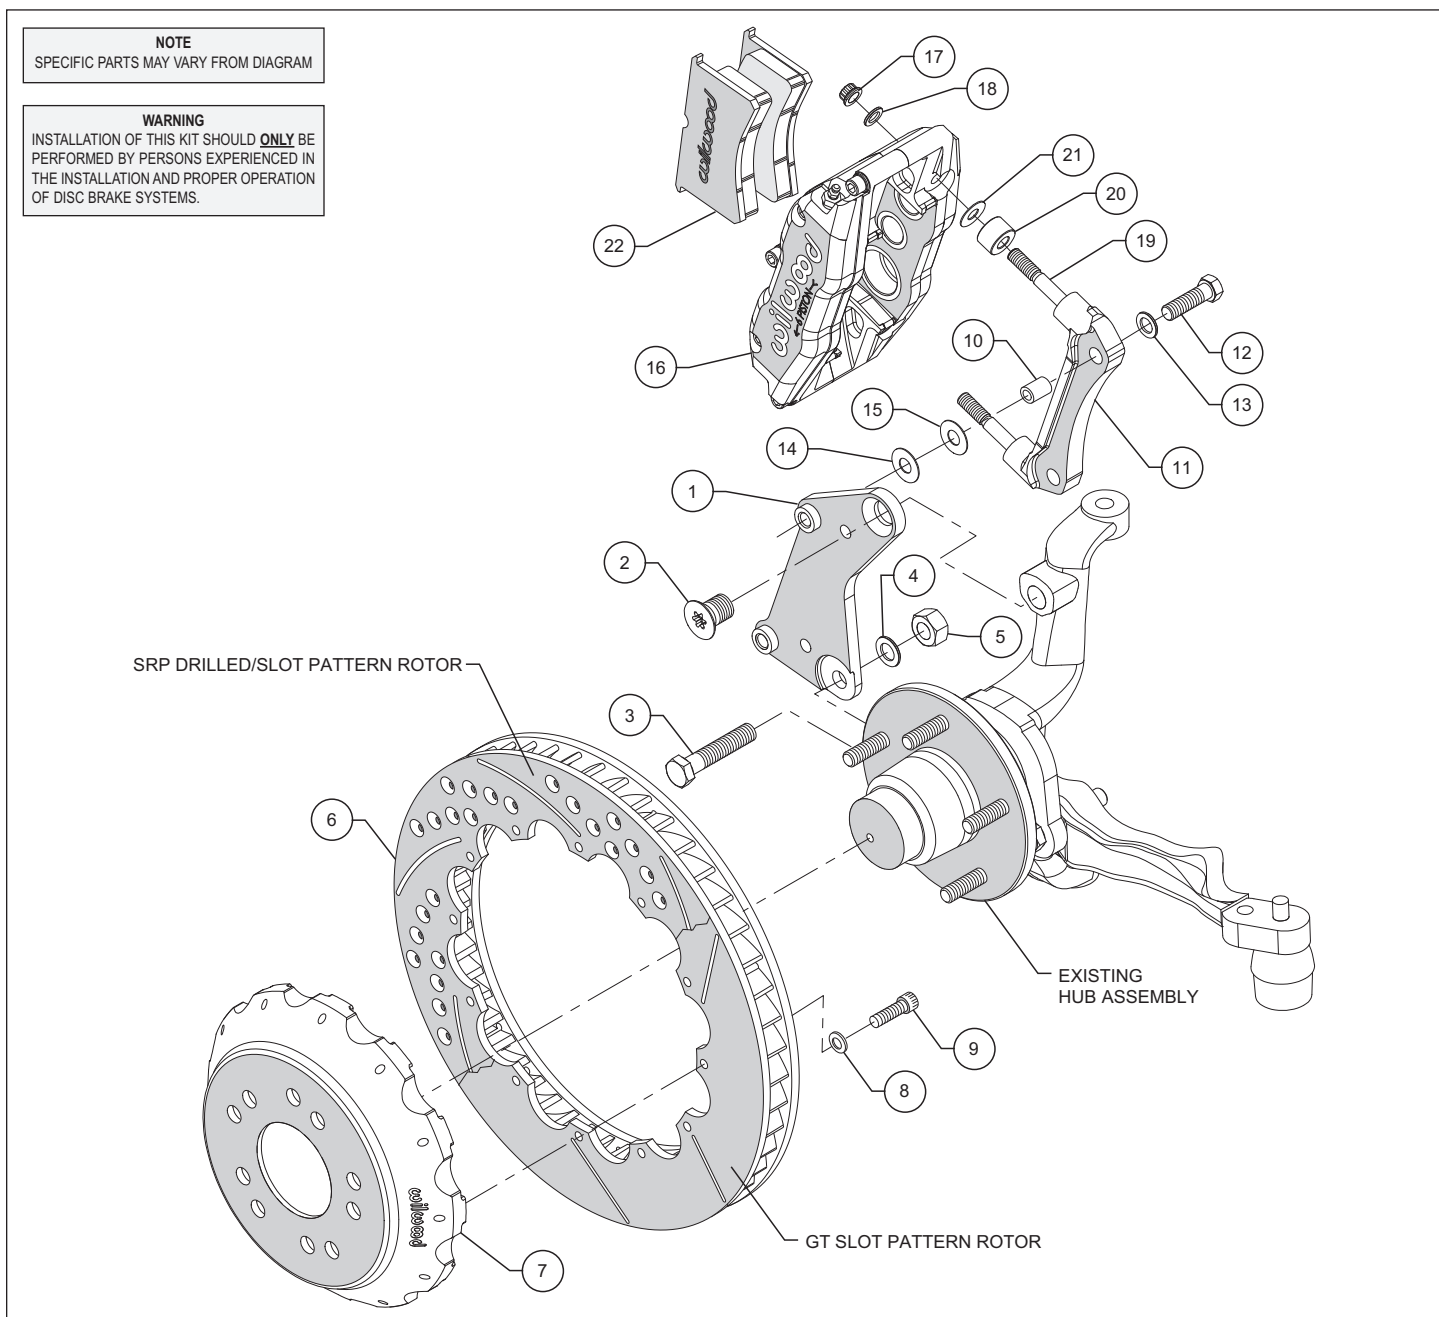

Figure 1. Typical Installation Configuration
- The radial mount caliper bracket assembly (11) should be installed first with clean, dry threads on the mounting bolts. Slide bolt sleeve (10) into the mounting holes of bracket (11). Install the bracket on the back side of the spindle/flat caliper mounting bracket (1) by sliding bolt (12) through washer (13), and through sleeve (10.) Initially place three shim washers (14) between the two brackets (1 and 11) (see Figure 1). The bracket must tighten squarely against the side of the spindle/caliper bracket. Inspect for interference from casting irregularities, machining ridges, burrs, etc. Later, after the caliper, pad, and rotor alignment has been checked, and any necessary shims have been put in place, the mount bolts should be coated with red *Loctite*® 271 and torqued to 47 ft-lbs.
- NOTE:** Please reference the caution statement at the beginning of the assembly instructions. Lubricate caliper mounting studs (19) and nuts (17) with lightweight oil. Install spacer (20) and one washer (21) over each pre-installed stud (19) on the radial mount bracket (11). Slide the caliper (16) in place over the studs and rotors, then install the washer (18) and lock nut (17) to hold the caliper in place. The caliper bleed screws should be pointing up. Snug the lock nuts (17) and check that the rotor (6) is centered in the caliper (16). Add or subtract shims (14 and/or 15) as necessary between the spindle/caliper mounting bracket (1) and the radial mount bracket (11) to center the caliper (16) on the rotor (6).
- Remove the caliper center bridge pad retainer bolt, nut, and tube from the caliper. Slide the brake pads (22) into place. They should install easily without interference. Check that the outside radius of the brake pad is flush with the outside diameter of the rotor face. Add or subtract shims (21) between the caliper and mount bracket to gain the proper alignment. Reinstall the center bridge pad retainer tube, bolt, and locknut. The locknut should be snug without play in the bolt or tube. Be cautious not to over tighten.
- Once all clearances have been checked, remove the wheel, caliper, hat, and rotor from the spindle and hub. Secure the spindle/caliper mounting bracket (1) to the spindle with bolts (2 and 3) using red *Loctite*® 271 on the bolt threads. Torque bolt (2) to 140 ft-lb and bolt (3) to 77 ft-lb. Remove bolts (12) from the radial mount caliper bracket (11) and coat threads with red *Loctite*® 271 and reinstall. **NOTE:** Only removing one bolt at a time, then coating the threads and reinstalling will help keep all the shims in place. Torque bolts (12) to 47 ft-lb. Reinstall the hat and rotor assembly and again use lug nuts to hold it in place. Reinstall the caliper (16), torque the caliper nuts (17) to 30-35 ft-lb.